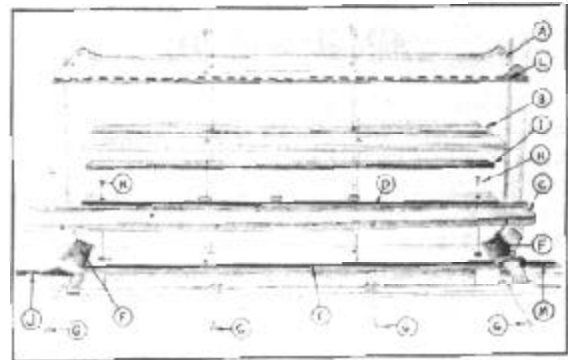
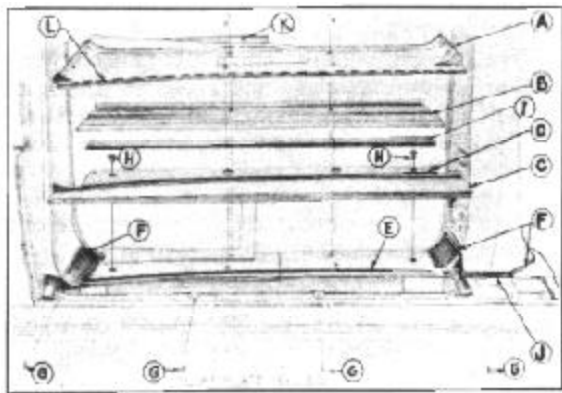

FIGURE 34
FIGURE 35
1. Remove scuff plates (A), Figure 34.
2. Remove scuff plate supports (B).
3. Remove the rocker panel extensions, (C).
5. Apply rubber cement to the rocker panel extension rubber seals (F); allow cement to become tacky and install as shown at (F), Figure 34, for the front doors and Figure 35, for the rear doors.